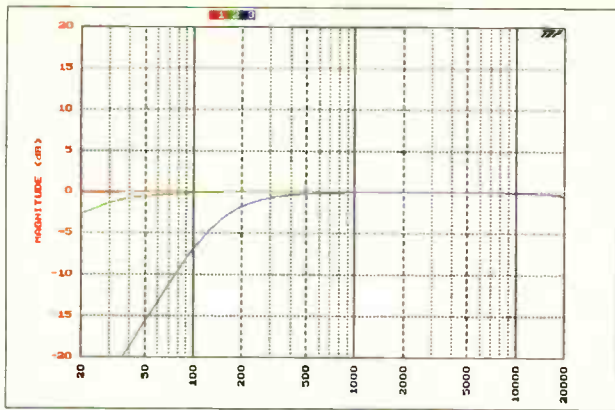

FIGURE 1: The Mackie M•1400 features variable frequency high-pass filters, shown here set to Off (10 Hz) in red, 35 Hz in green and 170 Hz in blue.
tion. In addition to the usual stereo, mono, and bridged-mono modes, there are three filters and a protection limiter. A very useful high-pass filter (see fig. 1) provides variable filtering of low frequencies from 10 Hz (off) to 175 Hz. This is a great way to prevent over-excitation and other nasty low-frequency artifacts in loudspeakers and can be trimmed to suit your devices. A switchable high-frequency boost (see fig. 2), referred to as "Air" EQ by Mackie, compensates for the natural roll-off of constant-directivity (CD) horns.